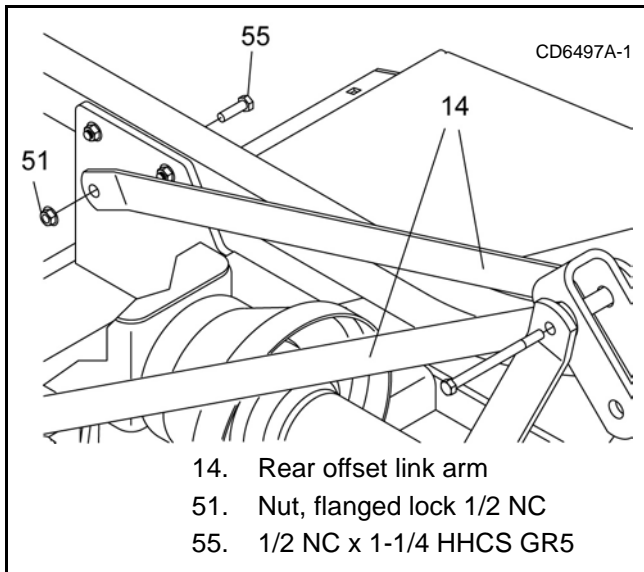

Figure 25. Right Rear Offset Link Installed
1. Loosen nut (51) and bolt (55) at rear frame lug and attach rear offset link arm (14) as shown in Figure 25. (Do not use wheel tube bolt.)